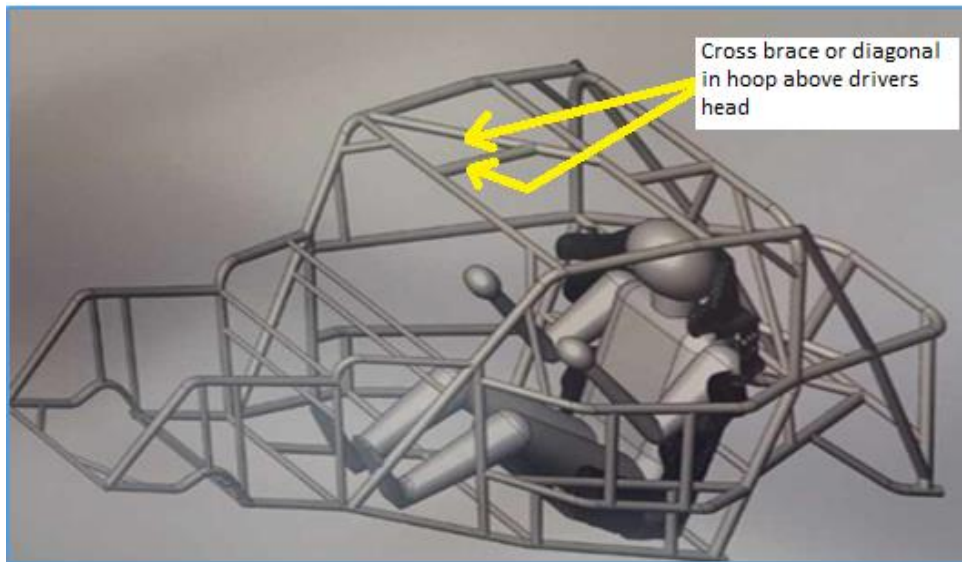

Figure 16
24.17 Cross-brace or diagonal tube is MANDATORY in the roof area. The cross-brace tube must join the front hoop and the hoop over driver's head without impeding the exit hatch area. This is to minimise the size of the roof opening and help protect the driver from impact in the roof area (*Figure 16*).